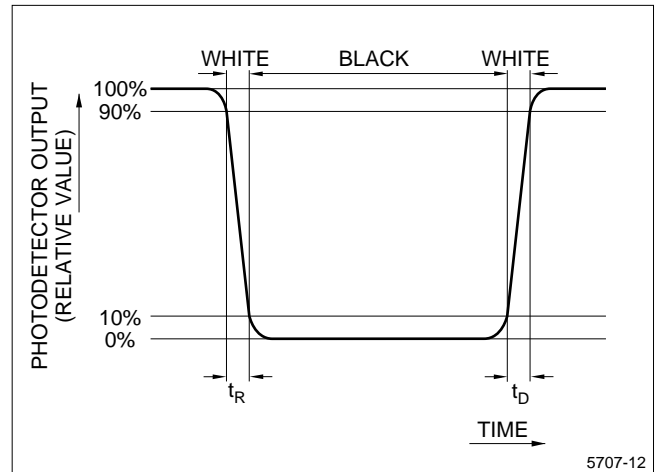

Figure 10. Definition of Response Time
5. The Response Time is measured as shown in Figure 10 by switching the input signals for 'black' ON and OFF.